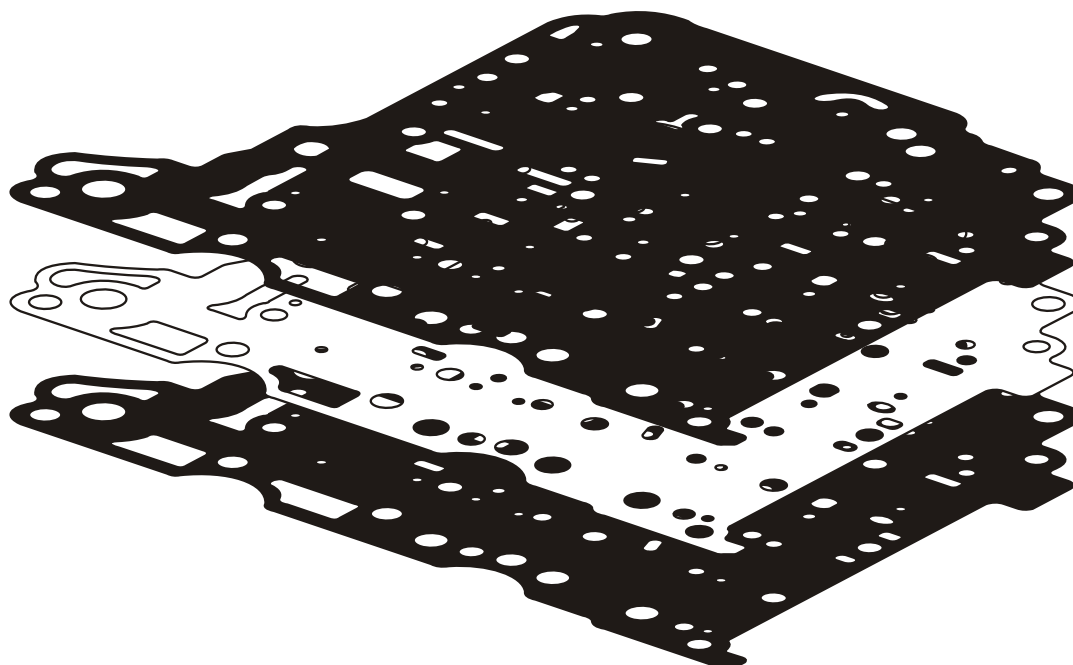

Figure 227
*Refer to Figure 227 for illustrations of the typical spacer plates.*